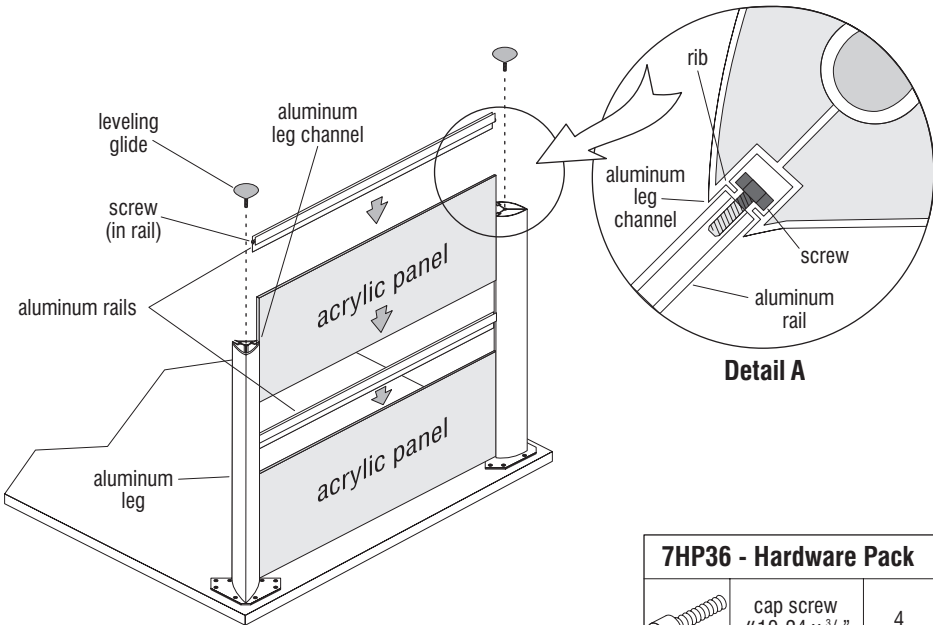

Figure 3
4. Begin installation of acrylic modesty panel(s) into aluminum legs by removing the leveling glides (Figure 3).
Note: The Figure 3 assembly illustration below shows the optional second acrylic panel configuration. Your installation may only specify one panel and aluminum rail per leg set.
5. As illustrated, slide acrylic panels and aluminum rails into position between the aluminum legs channels (Figure 3). Adjust the screws (pre-installed) in each end of aluminum rail, if required to make sure that the screw fits over the rib in the groove of the leg (Detail A).
10. Re-install the leveling glides removed in step 4 (Figure 3).